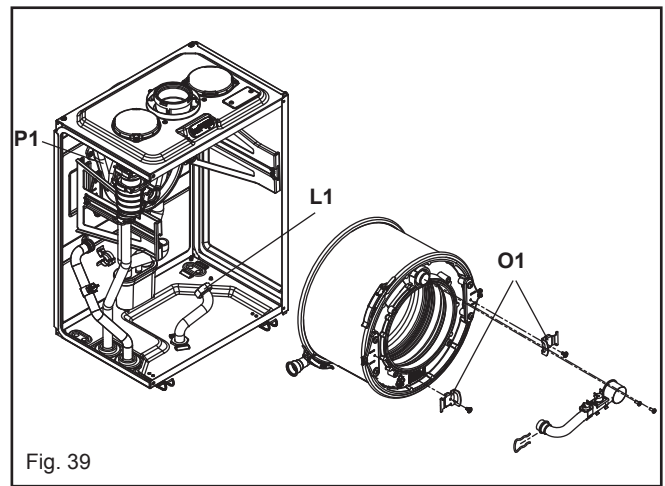

Fig. 39
6.16 MAIN HEAT EXCHANGER (fig. 39)